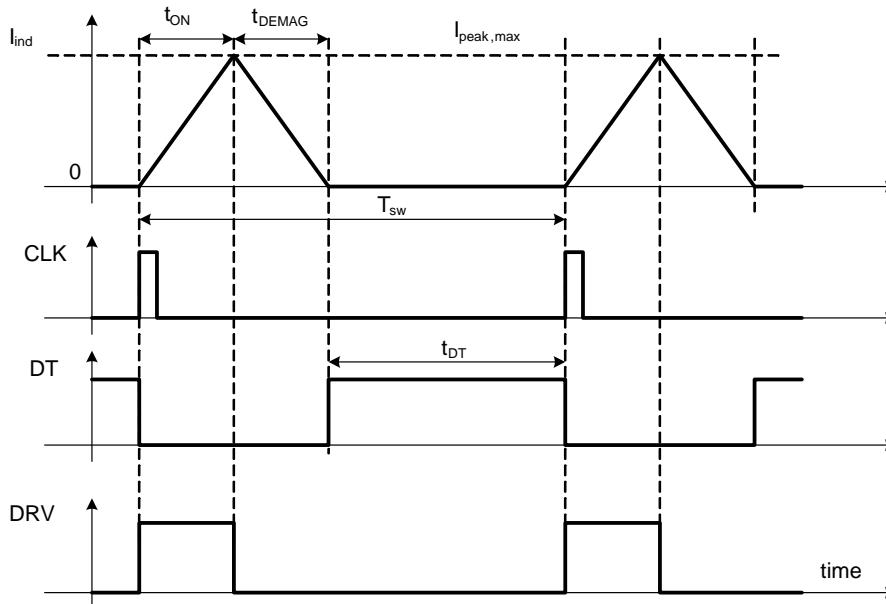

Figure 75. NCP1602 Clock, Dead Time and t_{ON} Waveforms
The Frequency Foldback (FF) system adjusts the on-time versus t_{DT} (see Figure 75) and the output power in order to ensure that the instantaneous mains current is in phase with the mains instantaneous voltage (creating a PF=1).